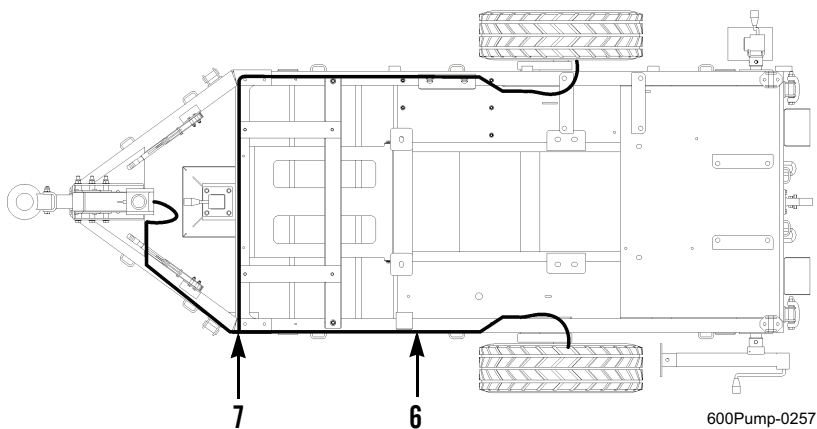

Figure 6. Left-Side Rear Solid Brake Line.
1. Remove fuel tank to access tee fitting (Figure 6, Item 7) on left side of trailer frame (WP 0099).
2. Place a suitable container under tee fitting (Figure 6, Item 7) and disconnect left-side rear solid brake line (Figure 6, Item 6) from tee fitting. Allow brake fluid to drain.
- Connect left-side rear solid brake line (Figure 6, Item 6) to tee fitting (Figure 6, Item 7) and tighten flare fitting.
- Secure left-side rear solid brake line (Figure 6, Item 6) to trailer frame with clamps.